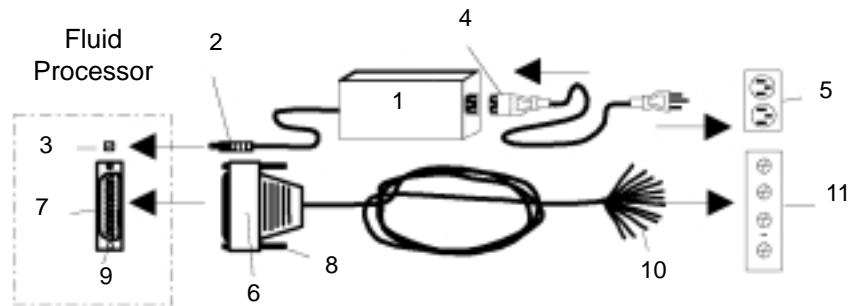

Fig. 3. Electrical and communications connections to Stream Selector.
1. See Figure 3 for an illustration of the electrical connections.
1. All electrical and communications connections to the Stream Selector are made in the rear of the unit (see Fig. 3):
- a) Plug the Power Supply (1) male-barrel terminal (2) into the Two-Position Fluid Processor female port (3).
- b) Plug the IEC 320 connector (4) of the Power Line Cord into the Power Supply (1).
- c) Plug the opposite end of the Power Line Cord into a properly grounded power source (5). The LabPRO *Universal Power Supply* can be operated from *inputs* of 100-240 VAC, 50-60 Hz. The *output* is 24VDC, 1.7A.
into the 25-pin terminal on the Stream Selector. The loose wires on the opposite end of the Cable are wired to an appropriate *output* device on your instrument, such as an *External Event Relay* or a *Time Function Switch*. The *output* must be either *contact closure* or *TTL* in order to connect the Stream Selector to your instrument (see **Caution - III A.1**). See Figure 3.
- (1) Plug the *Interface Cable* connector (6) into the 25-pin terminal (7) located on the rear of the Stream Selector. Tighten the connector screws (8) into their mating terminal ports (9).
- (2) Connect the color coded *Interface Cable* wires (10) to the instrument controller *contact closures* or *TTL* relay (11), as described in more detail in the next section “Input Line Control.”
- c) For *serial communication* the *interface cable* is replaced with RS-232 (P/N 5123-067) or RS-485 cable. The serial cable is connected between the 25-pin terminal on the Stream Selector and the appropriate *output* on your computer. See Figure 3.
- (1) Plug the RS-232 or RS-485 *interface cable* connector (6) into the 25-pin terminal (7) located on the rear of the Stream Selector. Tighten the connector screws (8) into their mating terminal ports (9).
- (2) Connect the opposite end of the RS-232 or RS-485 *interface cable* (not shown) into the instrument controller computer port, as described in more detail in the next section.
- (3) The last two digits (-01, -02, -03) of the Stream Selector part number specify the different *inputs* that can be used for *remote control*. See Table 1 for complete details on *inputs* and *outputs* for different Stream Selector part numbers.